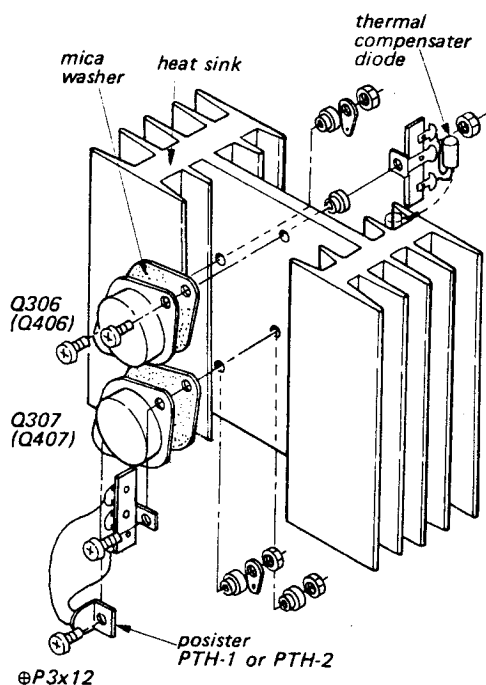

Fig. 2-7 Power transistor replacement
4. Remove the two screws ($\oplus$ P 3x12) and nuts securing the power transistor to the heat sink, then install a new transistor. See Fig. 2-7.